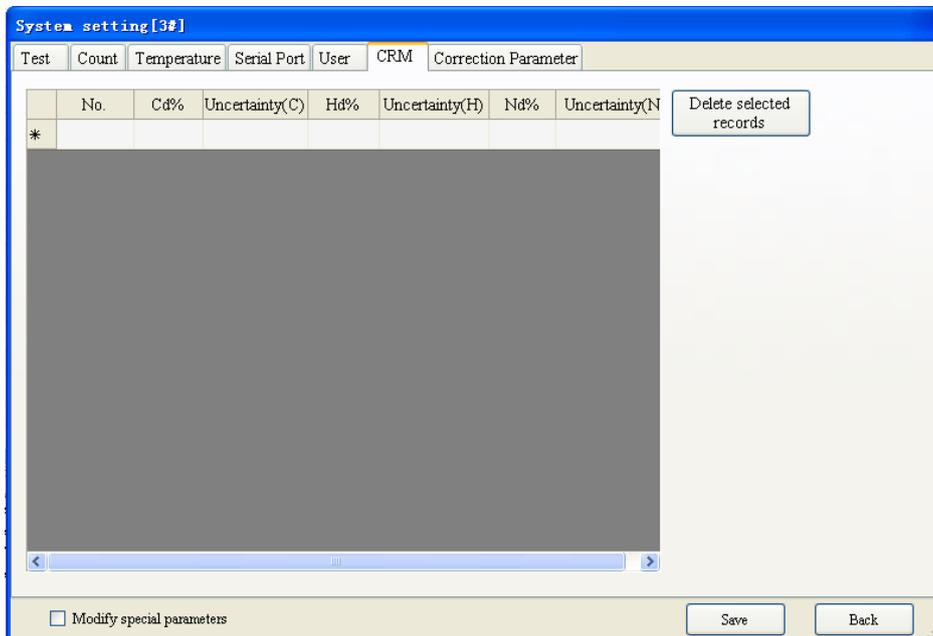

Fig. 4-3-7
5. Reference Material: Click on “CRM” option tab of “System Setting”, the window shown as Fig. 4-3-7 will popup.